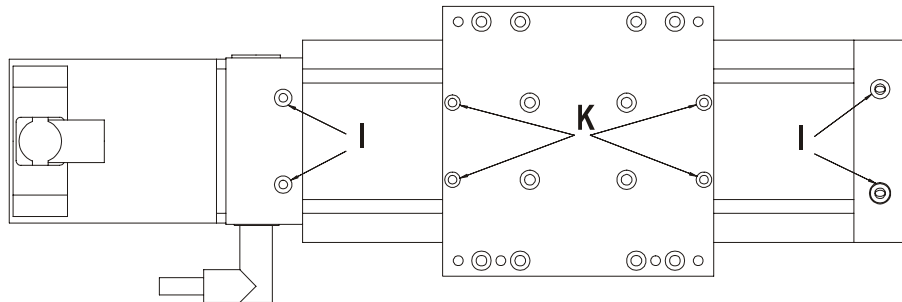
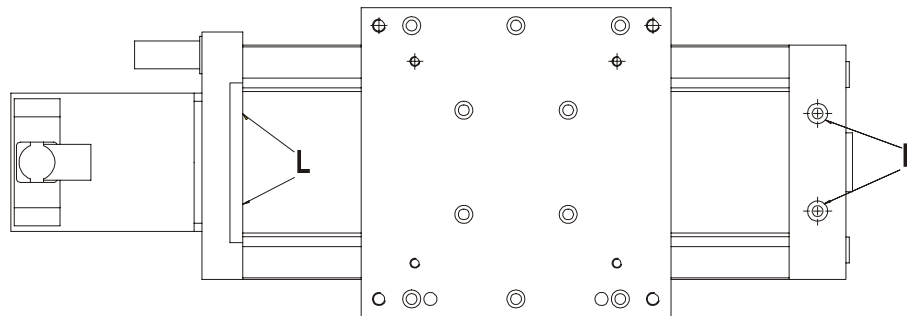

Figure 27: Module 105 S
Figure 28: Module 142 S
- Remove the holding plates and holding-down clamps by undoing the fastening screws I and (see Figure 27, K)
- Remove the holding plates by undoing the fastening screws (see Figure 28, L).
- Refit the holding plate on the motor side by fastening screws (see Figure 28, L).
- Remove the holding plate for the cover belt at the end plate (see *Figure 27, page 35* and *Figure 28, page 35*).
- Remove the holding plate for the cover belt on the end plate side (see *Figure 27, page 35* and *Figure 28, page 35*).
- Remove the holding plate for the cover belt on the end plate (see *Figure 27, page 35* and *Figure 28, page 35*).
- Tension the cover belt and fit the holding plate (see page 35 *Figure 27* and *Figure 28*).